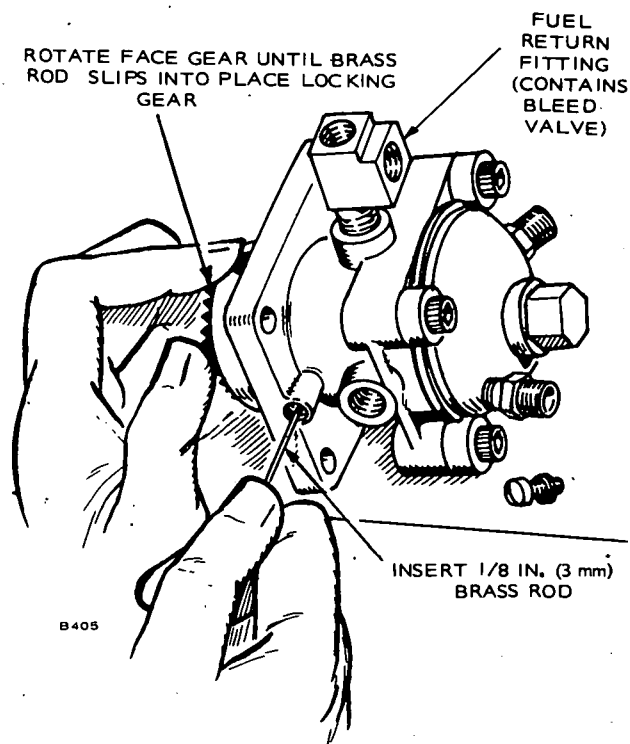

FIGURE 20. INJECTION PUMP
3. Remove the timing hole screw located on the pump mounting flange. Insert a 1/8 inch (3 mm) diameter brass wire into the hole (Figure 20).
A constant bleed-check valve is furnished with all PSU pumps. The bleed valve automatically bleeds off a restricted amount of fuel, fuel vapors, and small quantities of air to prevent air accumulation in the fuel sump area of the pumps. This valve should open at pressures between 0.9 and 3.0 psi (6.2 and 20.7 kPa). See Figure 20 for location.